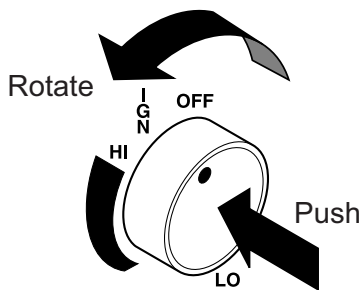

Figure 44 - IGN Position
6. From OFF position, push in gas control knob slightly and turn counterclockwise  to the IGN position. See *Figure 44*. Push in and hold control knob for 5 seconds.